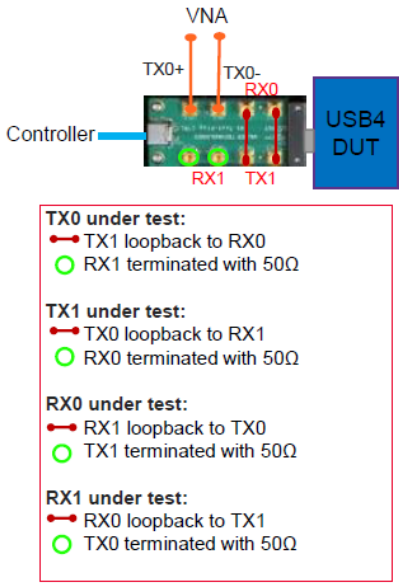

Figure 78 SMP test fixture - Tx/Rx lane switching
- 8 In case of SMP test fixture, Tx/Rx lane under test can be switched as shown in Figure 78.